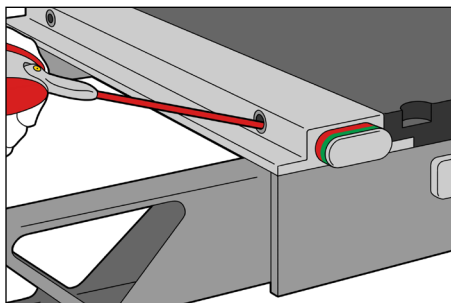

Fig. 4
4. Spray lubricant into the receiving holes. (Fig. 4)
6. Spray lubricant into the receiving holes again. (Fig. 4)